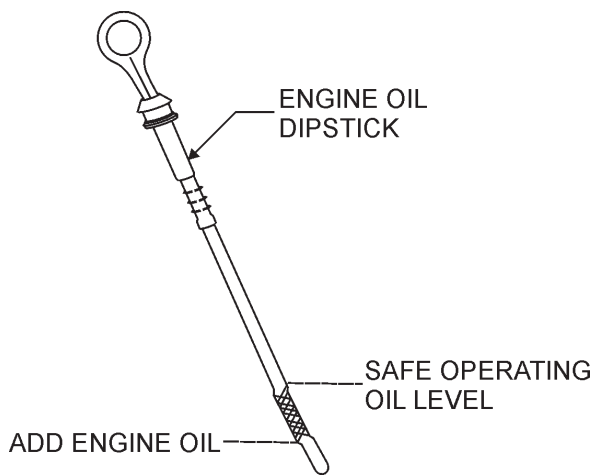

Figure 5. Engine Oil Dipstick
3. Verify that oil level (Figure 5) is maintained between the two notches on the dipstick.